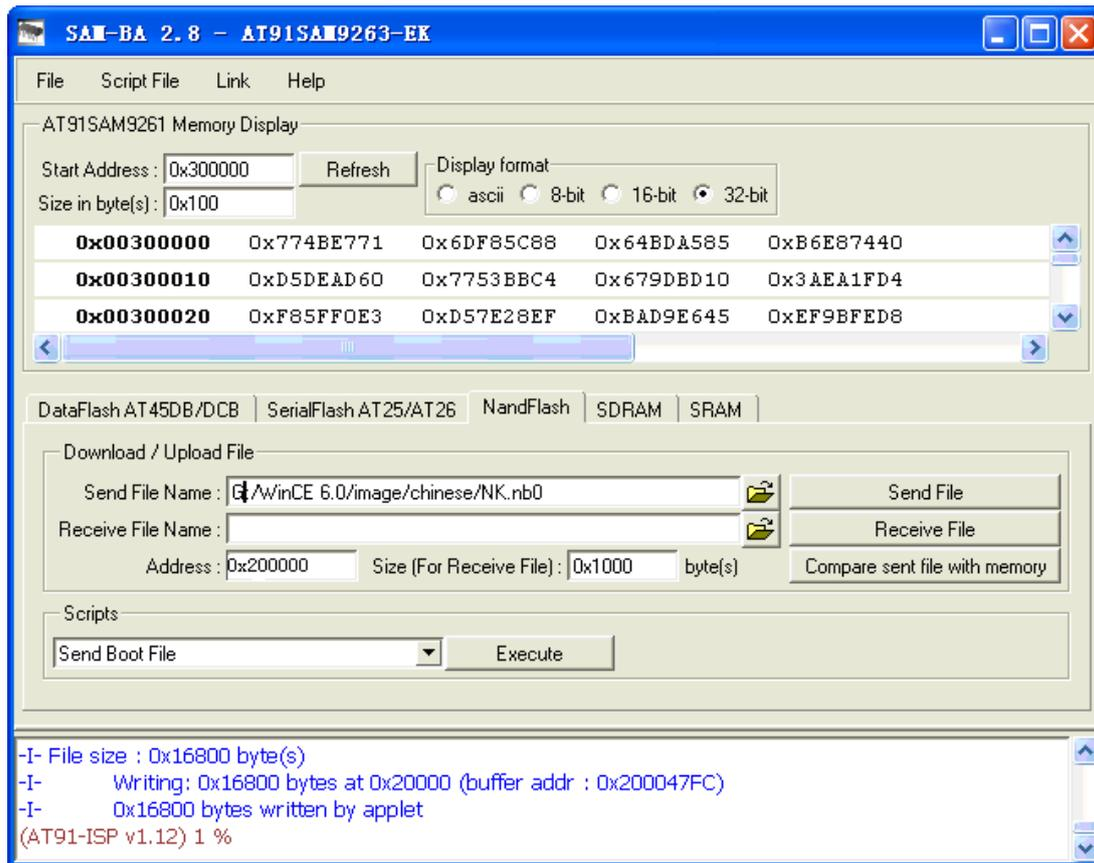
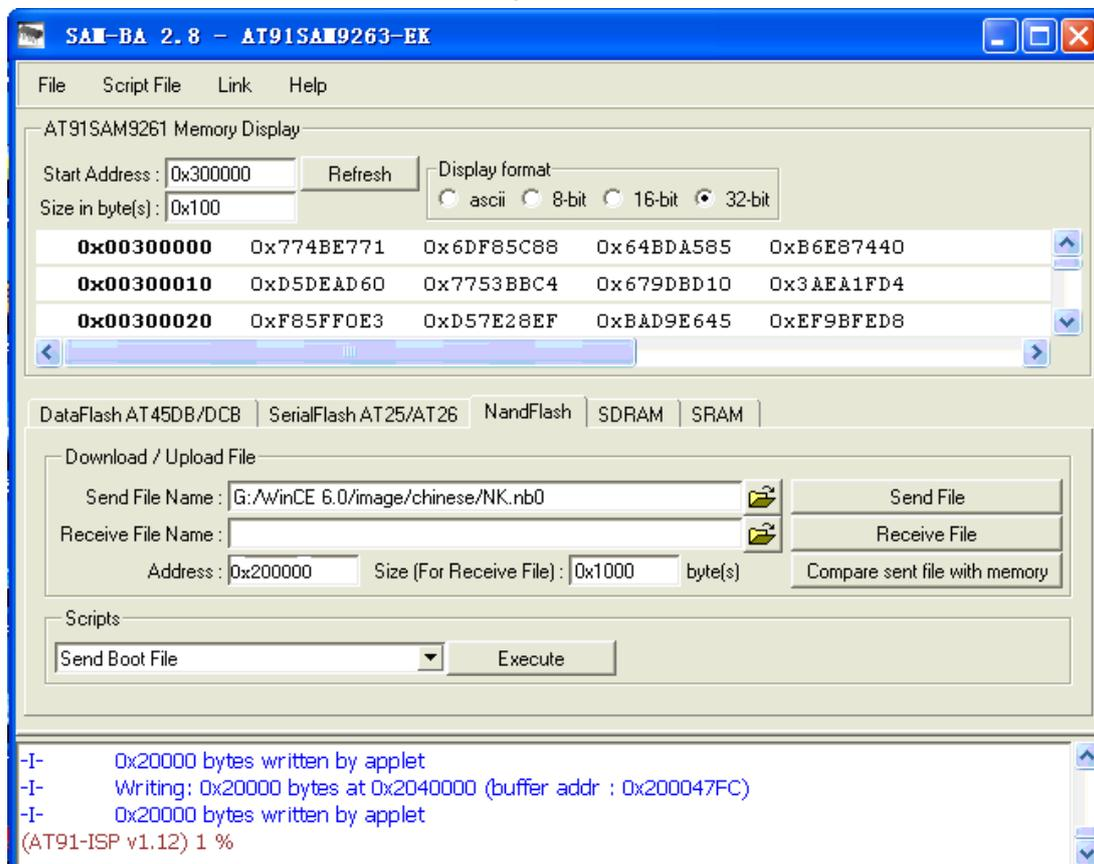

Figure 3.26
Figure 3.27
- As shown in Figure 3.26, enter the address 0x00200000 in the Address: field in Download/Upload File of SAM-BA v2.8, select SBC6300X CD \03 WinCE 6.0 Kit\00 Image \NK.nb0 file in the text box Send File Name:, then click Send File button in Download/Upload File of SAM-BA v2.8, SAM-BA v2.8 will start burning NK.nb0 file to the beginning of 0x00200000 address of NAND flash on SBC6300X main board. After the burning is successful, the interface as shown in Figure 3.27 will appear: (it takes 3-10 minutes to burn NK.nb0 file.) .